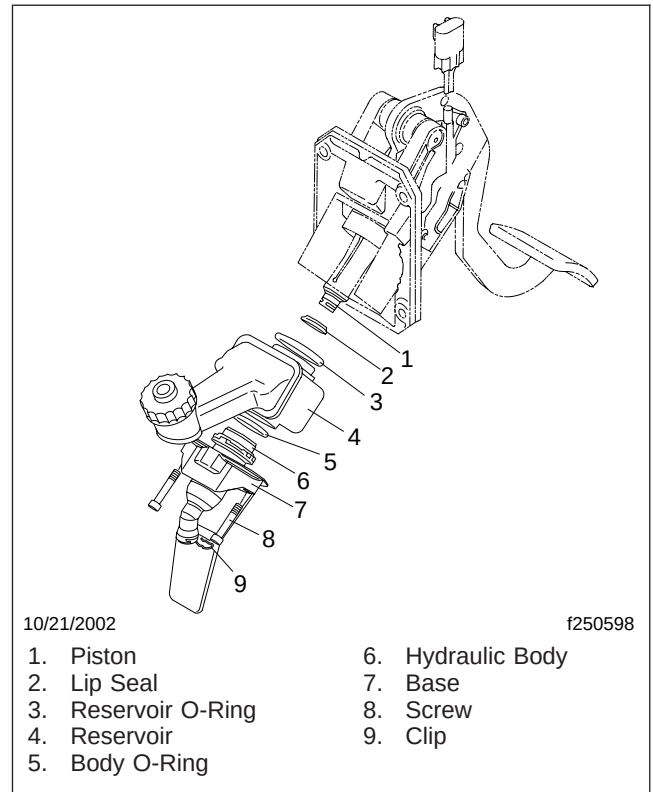

Fig. 2, Hydraulic Subassembly
4. Remove the two screws that attach the hydraulic subassembly to the mounting plate. See Fig. 2.